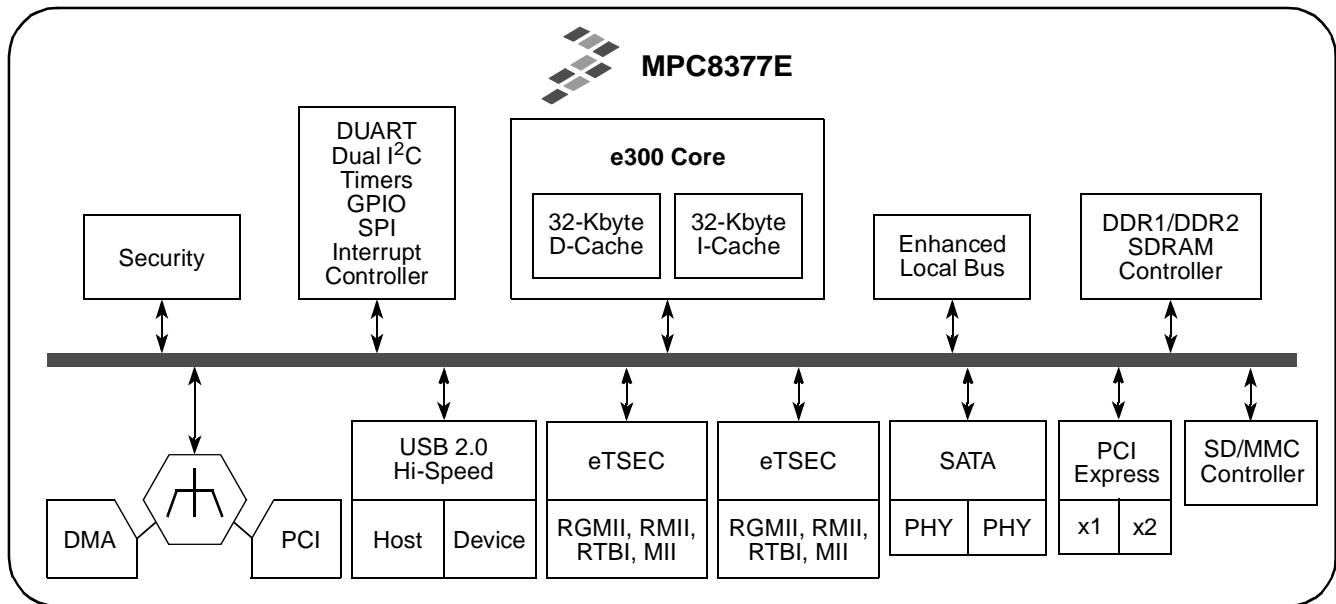

Figure 1. MPC8377E Block Diagram and Features
2.0 dual-role controller, a programmable interrupt controller, dual I²C controllers, a 4-channel DMA controller, an enhanced secured digital host controller, and a general-purpose I/O port. The block diagram of the MPC8377E is shown in Figure 1.